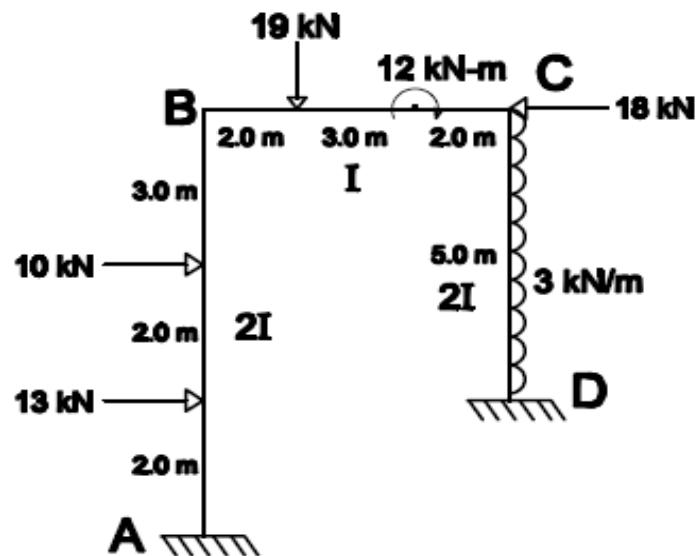

Figure 7
- 7 Analyse the given frame using flexibility method.Also draw B.M.D.[Figure.7]